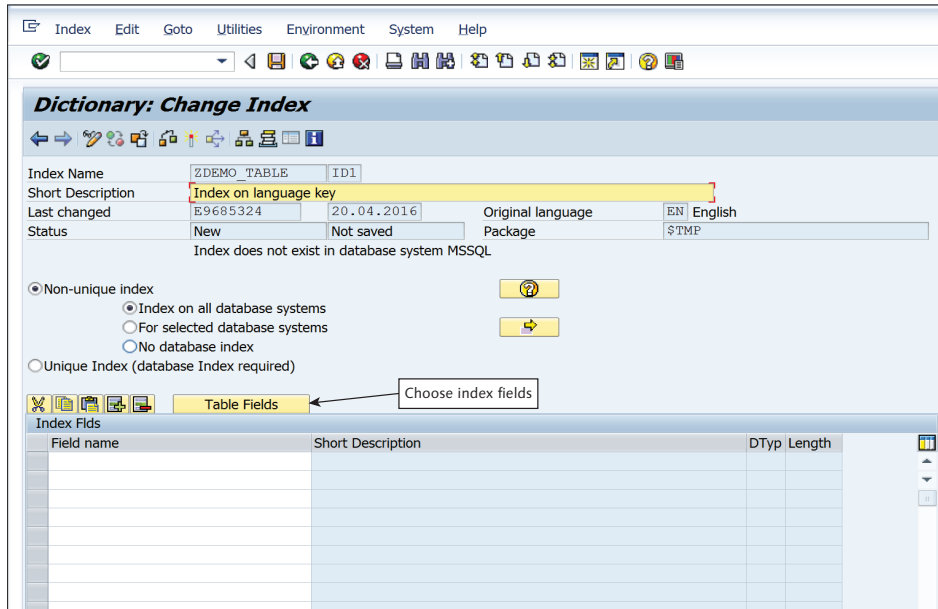

Figure 10.16 Maintaining Index Properties
4. On the DICTIONARY: CHANGE INDEX screen (see Figure 10.16), provide a meaningful short description. On this screen, you have the option to select to create a *unique index* or a *non-unique index*. If the values in index fields uniquely identify a row (i.e., the combination of the values in the key fields shouldn't exist